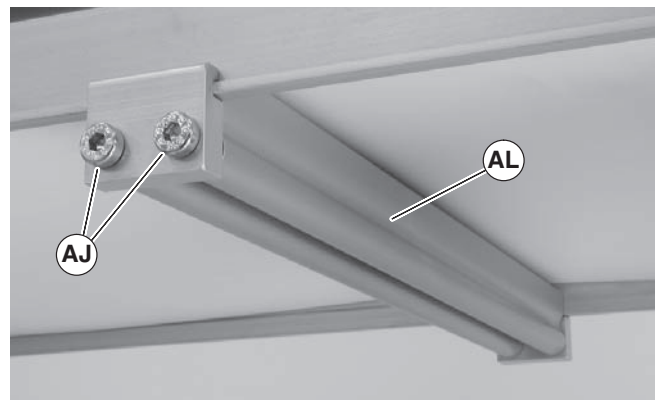

Figure 15
3. Install roller assembly as shown (Figure 15, item AL). Tighten screws (AJ) to 60 in-lb (7 Nm).